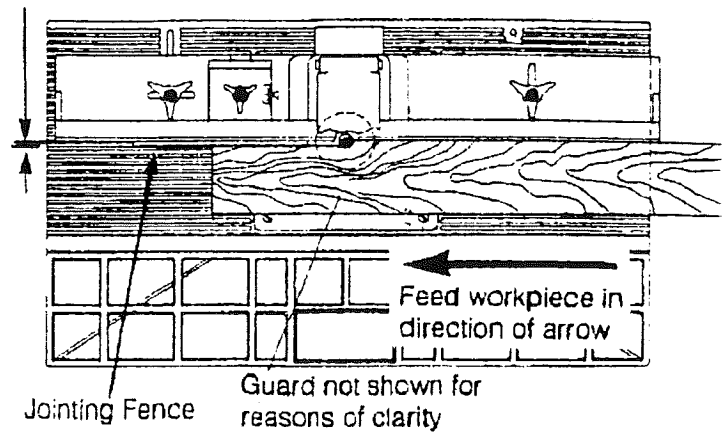

FIGURE 26.
NOTE: Feed work against the rotation of the cutter (in the direction shown by arrow in Figure 26).
5. Loosen knob on jointing fence and move it out, flush against the finished edge of scrap wood. Retighten the knob. See Figure 26.